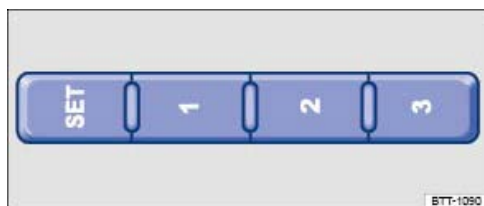

Fig. 102 Memory buttons on the outside of the driver seat.
- Press the **SET** button for longer than one second → *Fig. 102*.